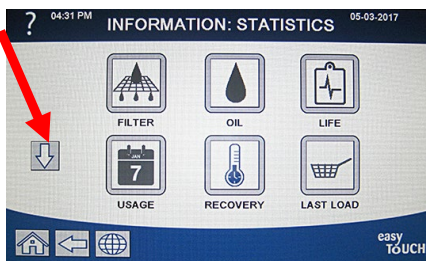

Figure 9
- Press the down arrow button (see Figure 9).